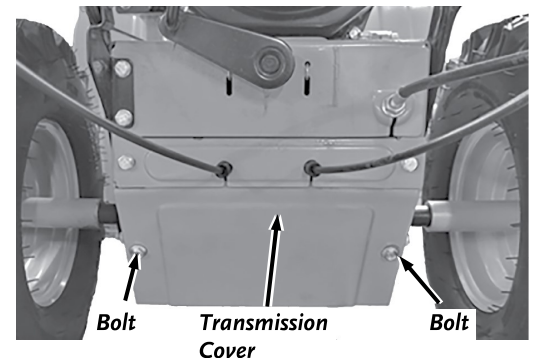

Figure 53
3. Remove the six Bolts that secure the Transmission Cover using a 13mm Wrench and remove the Transmission Cover (**Figure 53**).
4. Remove six Bolts securing the Transmission Cover and remove the Cover (**Figure 53**).